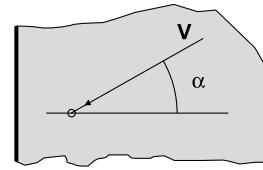

fig.33
- e) The factor  $\psi_\alpha$  takes account of the angle between the shear load and the normal on the edge ( $\alpha = 0^\circ$  for orthogonal shear towards the edge,  $\alpha = 180^\circ$  for orthogonal shear on the edge or away from it) (fig. 33),